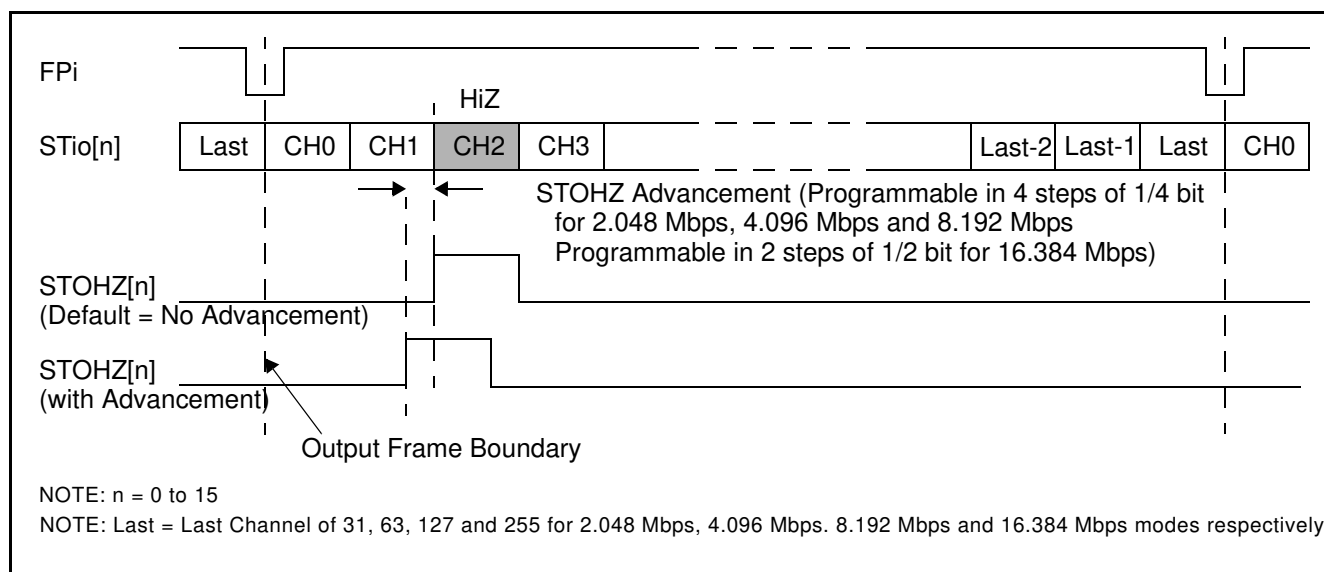

Figure 18 - Channel Switching External High Impedance Control Timing
There are 16 external high impedance control signals, STOHZ0 - 15, that are used to control the external drivers for per-channel high impedance operations. Only the first sixteen ST-BUS/GCI-Bus (STio0 - 15) outputs are provided with corresponding STOHZ signals. The STOHZ outputs deliver the appropriate number of control timeslot channels based on the output stream data rate. Each control timeslot lasts for one channel time. When the ODE pin is high and the OSB (bit 2) of the Control Register (CR) is also high, STOHZ0 - 15 are enabled. When the ODE pin, OSB (bit 2) of the Control Register (CR) or the $\overline{\text{RESET}}$ pin is low, STOHZ0 - 15 are driven high, together with all the ST-BUS/GCI-Bus outputs being tristated. Under normal operation, the corresponding STOHZ outputs of any unused ST-BUS/GCI-Bus channel (high impedance) are driven high. Refer to Figure 18 on page 33.